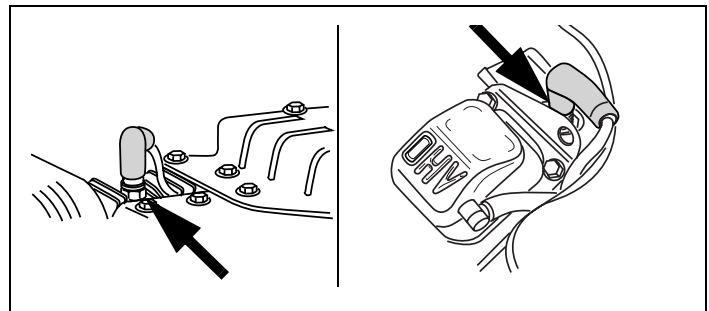

Figure 50. Typical Spark Plug Connection
14. Carefully re-connect spark plug wire to spark plug. See Figure 50.